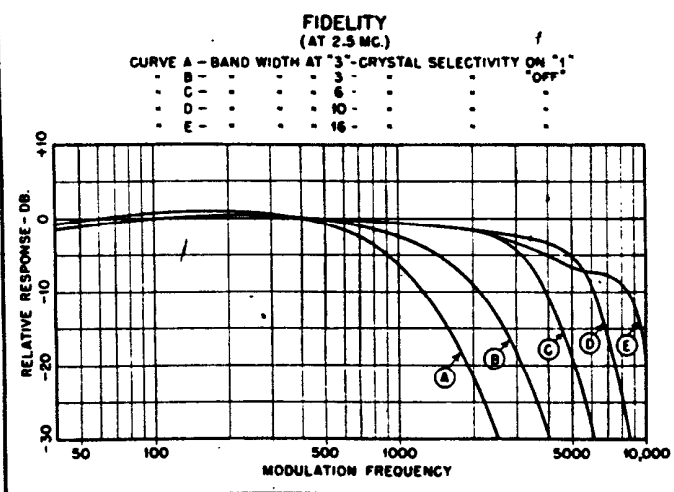

FIG. 9 - Audio fidelity curves.
b. *Output Transformer:* The output transformer (T8) has two secondary windings; a 500-ohm secondary (4-5) for power output, and a secondary for earphone (6-7) designed to deliver about 36% of the output power into an 8000-ohm resistive load when the 500-ohm secondary is connected to a matching load such as the loudspeaker (see PAR. 7f). The turns ratio and resistance of the earphone winding are such that the power delivered to any load between 8000 ohms and 80 ohms varies less than 6 db, and the power input to a 250-ohm load is but 2 db greater than that to a 4000-ohm load. FIG. 9 shows curves of overall audio fidelity with different settings of the CRYSTAL SELECTIVITY and BAND WIDTH controls.